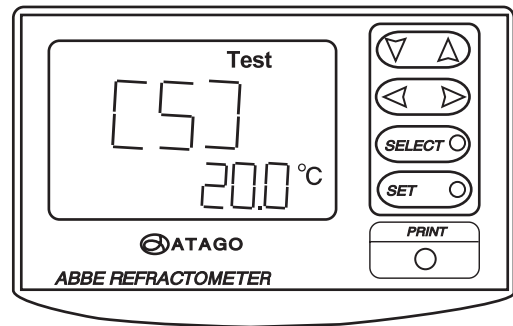
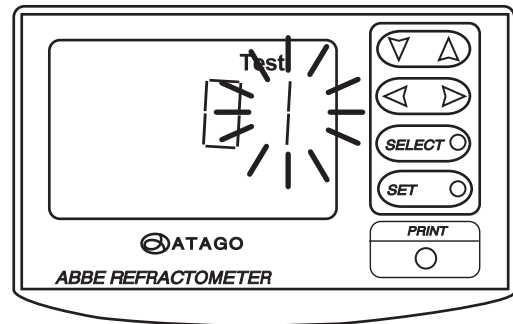

Fig. 11-5
Fig. 11-6
① Press the SELECT key to select the "Test" mode.
② Display the [5] on the screen, using the ∇ \wedge keys (Fig. 11-5). Press the SET key. The screen in Fig. 11-6 will appear.